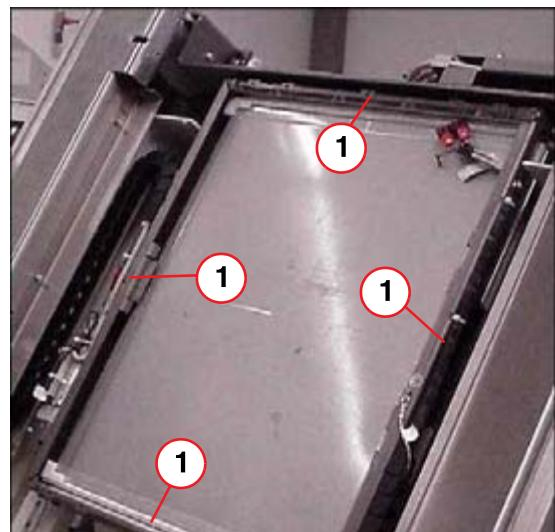

Fig. 7: Cleaning and lubricating the cassette
- Clean all accessible locations (1/Fig. 7 / p. 23).